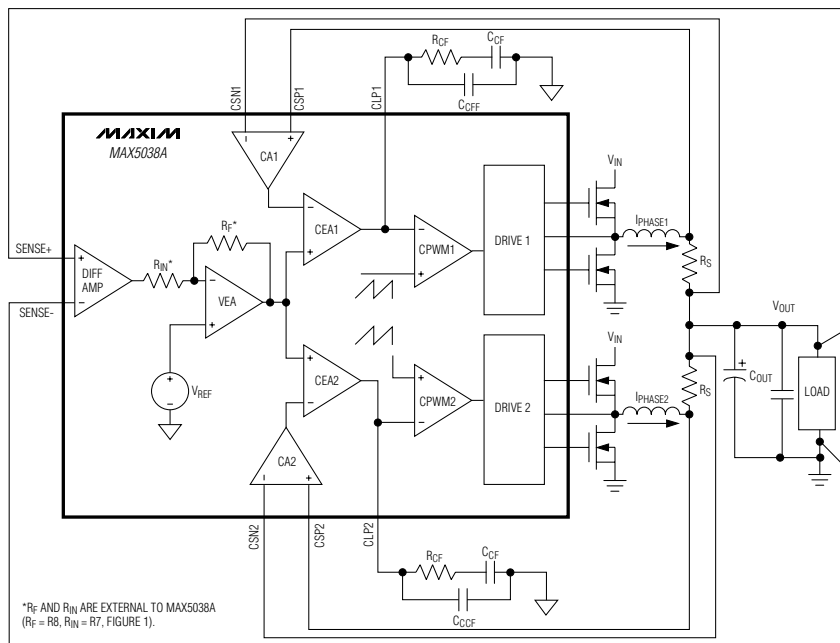

Figure 3a. MAX5038A Control Loop
The MAX5038A/MAX5041A use an average-current-mode control scheme to regulate the output voltage (Figures 3a and 3b). The main control loop consists of an inner current loop and an outer voltage loop. The inner loop controls the output currents (IPHASE1 and IPHASE2) while the outer loop controls the output voltage. The inner current loop absorbs the inductor pole reducing the order of the outer voltage loop to that of a single-pole system.
The outer voltage control loop consists of the differential amplifier (DIFF AMP), reference voltage, and VEA. The unity-gain differential amplifier provides true differential remote sensing of the output voltage. The differential amplifier output connects to the inverting input (EAN) of the VEA. The noninverting input of the VEA is internally connected to an internal precision reference voltage. The MAX5041A reference voltage is set to +1.0V and the MAX5038A reference is set to the preset output voltage. The VEA controls the two inner current loops (Figures 3a and 3b). Use a resistive feedback network to set the VEA gain as required by the adaptive voltage-positioning circuit (see the *Adaptive Voltage Positioning* section).
Each phase of the MAX5038A/MAX5041A has a dedicated transconductance current-error amplifier (CEA-) with a typical  $g_m$  of 550 $\mu$ S and 320 $\mu$ A output sink and source current capability. The current-error amplifier outputs, CLP1 and CLP2, serve as the inverting input to the PWM comparator. CLP1 and CLP2 are externally accessible to provide frequency compensation for the inner current loops (Figures 3a and 3b). Compensate CEA- such that the inductor current down slope, which becomes the up slope to the inverting input of the PWM comparator, is less than the slope of the internally generated voltage ramp (see the *Compensation* section).
The differential amplifier (DIFF AMP) facilitates output voltage remote sensing at the load (Figures 3a and 3b). It provides true differential output voltage sensing while rejecting the common-mode voltage errors due to high-current ground paths. Sensing the output voltage directly at the load provides accurate load voltage sensing in high-current environments. The VEA provides the difference between the differential amplifier output (DIFF) and the desired output voltage. The differential amplifier has a bandwidth of 3MHz. The difference between SENSE+ and SENSE- regulates to the preset output voltage for the MAX5038A and regulates to +1V for the MAX5041A.
The VEA output clamps to +0.9V (plus the common-mode voltage of +0.6V), thus limiting the average maximum current from individual phases. The maximum average-current-limit threshold for each phase is equal to the maximum clamp voltage of the VEA divided by the gain (18) of the current-sense amplifier. This allows for accurate settings for the average maximum current for each phase. Set the VEA gain using  $R_F$  and  $R_{IN}$  for the amount of output voltage positioning required as discussed in the *Adaptive Voltage Positioning* section (Figures 3a and 3b).
Average-current-mode control has the ability to limit the average current sourced by the converter during a fault condition. When a fault condition occurs, the VEA output clamps to +0.9V with respect to the common-mode voltage ( $V_{CM} = +0.6V$ ) and is compared with the output of the current-sense amplifiers (CA1 and CA2) (see Figures 3a and 3b). The current-sense amplifier's gain of 18 limits the maximum current in the inductor or sense resistor to  $I_{LIMIT} = 50mV/R_S$ .